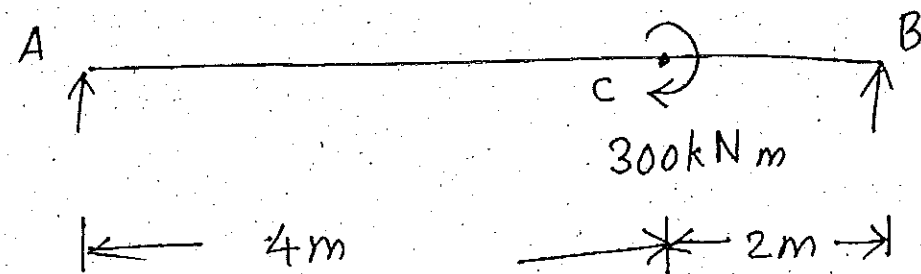

Fig. Q.13(b)
- (b) Determine the deflection at the point 'C' and maximum deflection for the beam given in Fig. Q.13(b) $E = 2 \times 10^5 \text{ N/mm}^2$, $I = 2 \times 10^8 \text{ mm}^4$.